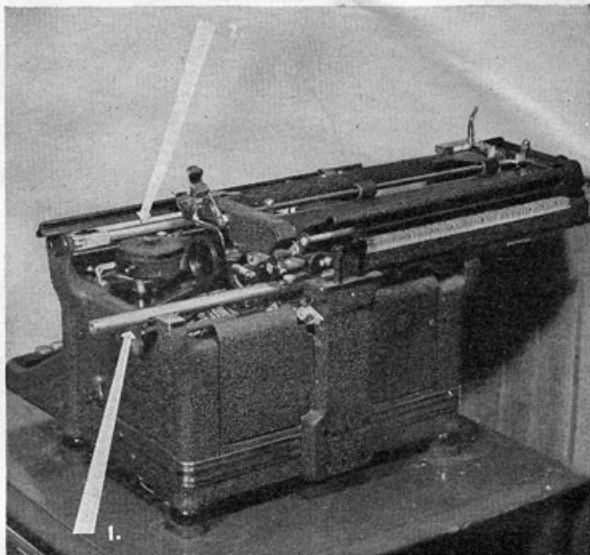
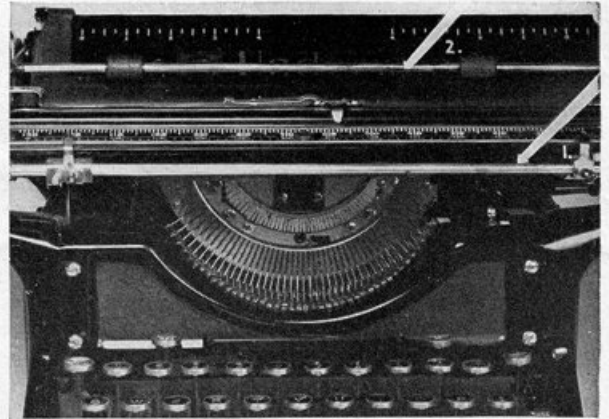

Figure 9.—Underwood: 1. Wayrod; 2. Rear margin bar.
Figure 12.—Underwood: 1. Front margin bar; 2. Paper bail.
On the Underwood typewriter, wipe the round carriage rail or wayrod on which the carriage moves (see fig. 9).
Margin stops of the Underwood typewriter are set from the front of the machine. Wipe the round rod in front on which the stops slide (see fig. 12, p. 8). Also wipe the rear margin bar (as much of it as is possible to reach), located in back of and directly below the plate on which the margin scale appears (see fig. 9, p. 7).
*Paper Bail.*—The paper bail is the rod with two or more rubber rolls holding the paper against the platen (see fig. 12, p. 8). Move bail rolls to extreme right and extreme left and raise the bail to its highest position, then wipe the full length of the bail with the oil-moistened cloth.